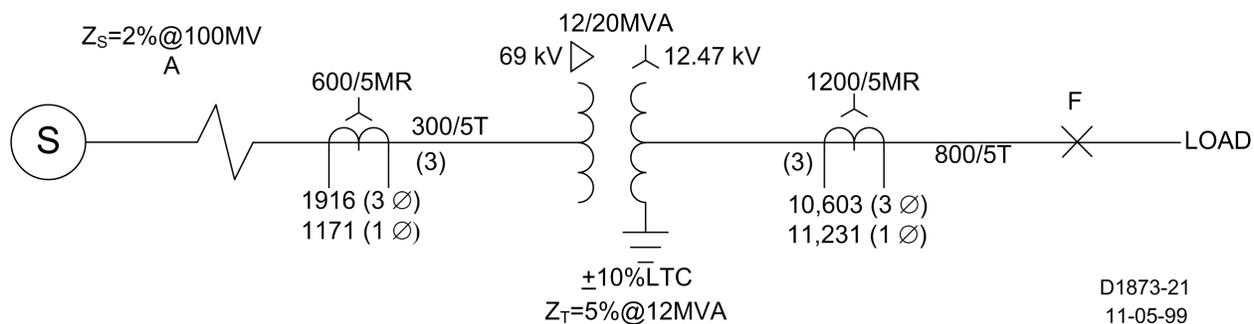

Figure 46. Two Winding Transformer Relay Setting Calculation Example
Refer to Figure 46 for a one-line drawing of this example.
**Step 3. Three-Phase Units Only:** Adjust the phase compensation jumpers on Analog Board #2, shown in the *Controls and Indicators* chapter (or use the procedure listed in **TESTING THREE-PHASE UNITS WITHOUT CHANGING JUMPERS**, in the *Testing* chapter). Because of the grounded winding in this example, as shown in Figure 46, the high-side and low-side zero-sequence currents must be canceled. Because the CTs are connected in wye and the high-side currents lead the low-side currents by 30°, select the Δ2 position. This connection advances the low side phasors by 30° to match the phasors from the high-side.
**Step 12.** Determine the maximum CT secondary fault current for external faults at F ( $I_{F3}$  for three-phase, and  $I_{FG}$  for single-phase). Refer again to Figure 46 for this example:
Neglecting  $R_R$ , use  $R_W$  and  $R_L$  from Figure 46: